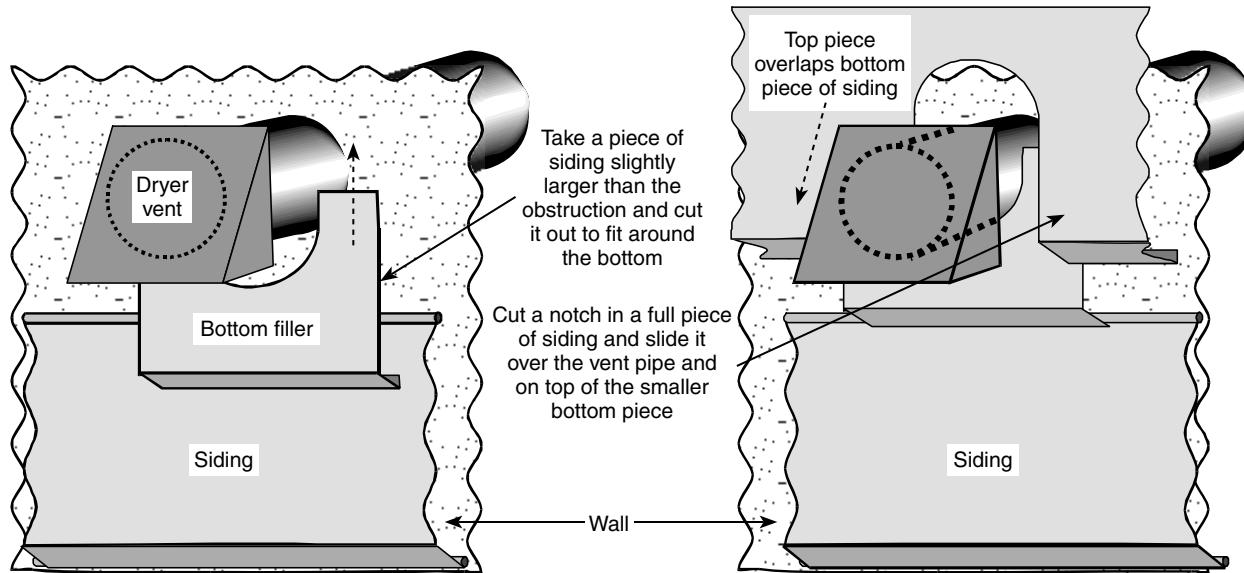

Figure 14-10
3. At the middle of the pipe, cut the siding straight up on each side, as shown in Figure 14-10 (this piece of siding only covers the bottom half of the vent pipe).